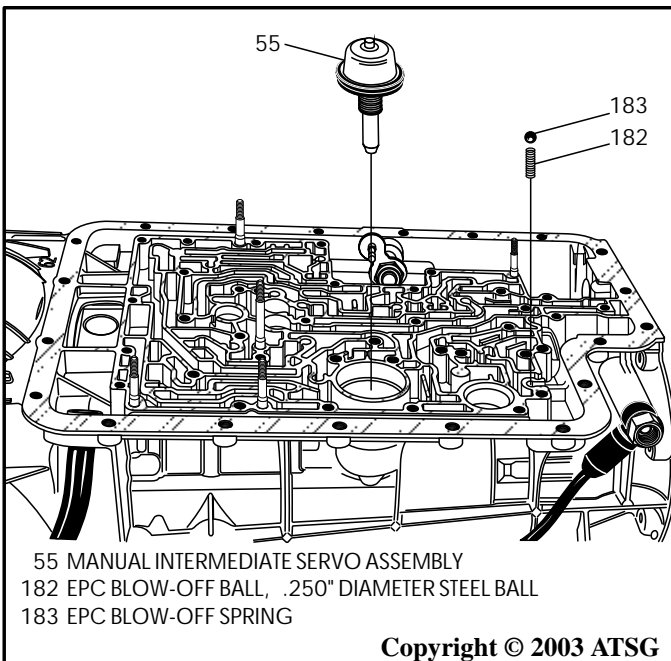

Figure 54
14. Remove 1/4" Dia. steel EPC ball, and spring from the case pocket, as shown in Figure 54.
15. Remove the manual intermediate servo piston, as shown in Figure 54, by tapping gently on the piston with a rubber mallet to release it from case bore.